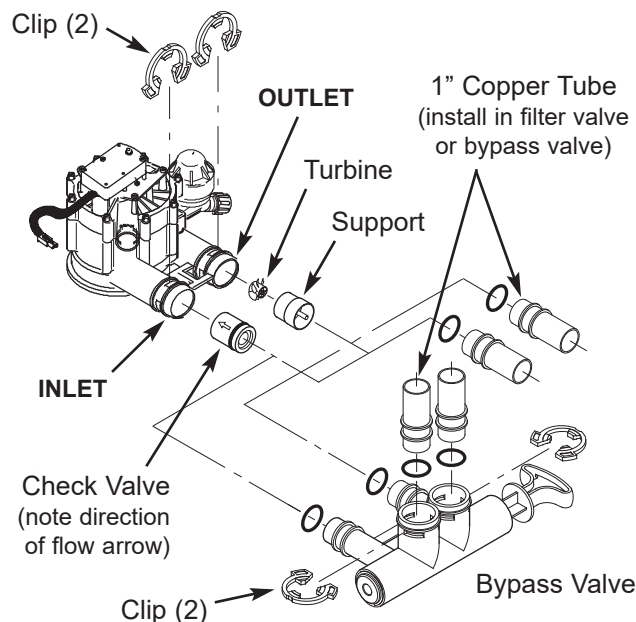

FIG. 9
- Make sure that the check valve is in place in the valve inlet, with the flow arrow pointed inward, as shown in Figure 9.